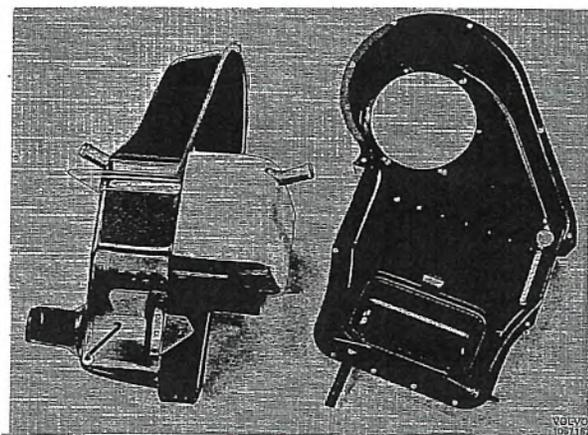

Fig. 8-53. Heater halves separated
2. Unscrew the screws holding together the heater halves and separate them (Fig. 8-53).